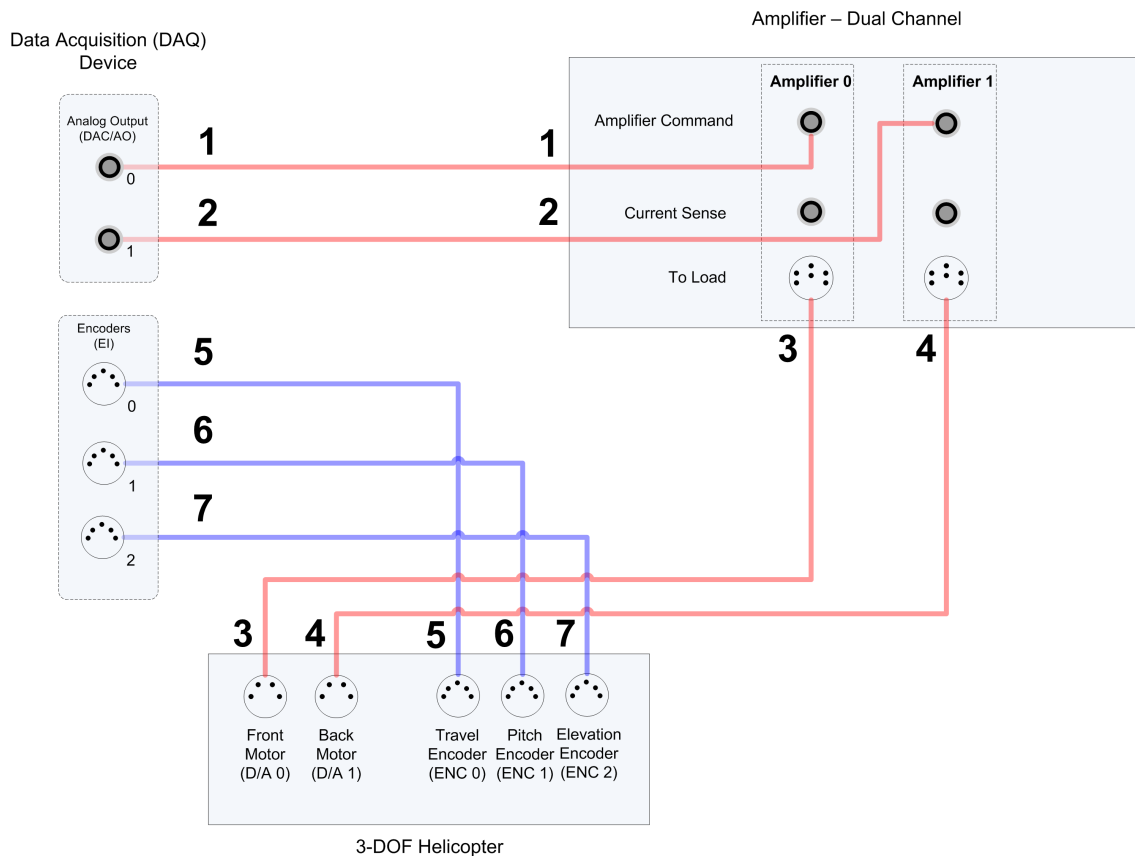

Figure 3.9: 3 DOF Helicopter connection diagram
This section describes the typical cabling connections that are used by default for the Quanser 3 DOF Helicopter system. The travel, pitch, and elevation encoders are connected directly to the data-acquisition board. This provides the position feedback necessary to control the helicopter. The data-acquisition board, i.e., DAQ board, outputs a control voltage that is amplified and drives the front and back motors. Both motors are driven by a power amplifier, e.g. such as the Quanser VoltPAQ-X2 or two VoltPAQ-X1 systems. Figure 3.9 illustrates the wiring between the two-channel data-acquisition device, the 3 DOF Helicopter base, and a two-channel amplifier. These connections are described in detail in Section 3.2.1 and summarized in Table 3.1.
Note: Your configuration may be different. For instance, you may have a DAQ with more IOs than the one presented in Figure 3.9 or have two single-channel amplifiers that do not require any E-Stop (in which case you would omit connection).
3. Connect the 2xRCA to 2xRCA cable from the *Analog Output Channel #0* on the terminal board to the Amplifier 0 *Amplifier Command* connector. This is illustrated by connection #1 in Figure 3.9.
4. Connect the 2xRCA to 2xRCA cable from the *Analog Output Channel #1* on the terminal board to the Amplifier 1 *Amplifier Command* connector. This is illustrated by connection #2 in Figure 3.9.
5. Connect a 4-pin-DIN to 6-pin-DIN cable from the Amplifier 0 *To Load* connector to the *Front Motor (D/A 0)* connector on the 3 DOF Helicopter plant. This is illustrated by connection #3 in Figure 3.9.
6. Connect a 4-pin-DIN to 6-pin-DIN cable from the Amplifier 1 *To Load* connector to the *Back Motor (D/A 1)* connector on the 3 DOF Helicopter plant. This is illustrated by connection #4 in Figure 3.9.
7. Connect a 5-pin-stereo-DIN to 5-pin-stereo-DIN cable from the *Encoder 0* connector on the terminal board to the *Travel Encoder (ENC 0)* connector on the 3 DOF Helicopter base. This is illustrated by connection #5 in Figure 3.9.
8. Connect another 5-pin-stereo-DIN to 5-pin-stereo-DIN cable from the *Encoder 1* connector on the terminal board to the *Pitch Encoder (ENC 1)* connector on the 3 DOF Helicopter plant. This is illustrated by connection #6 in Figure 3.9.
9. Connect another 5-pin-stereo-DIN to 5-pin-stereo-DIN cable from the *Encoder 2* connector on the terminal board to the *Elevation Encoder (ENC 2)* connector on the 3 DOF Helicopter plant. This is illustrated by connection #7 in Figure 3.9.
10. Connect the emergency stop switch to the E-Stop connector on the amplifier. This is illustrated by connection #8 in Figure 3.9.